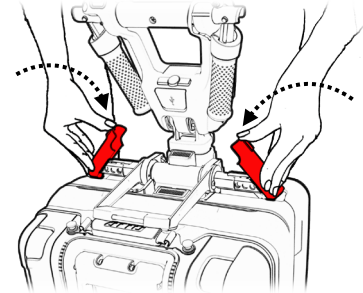

Figure 50
3. Close the two separation levers until they click (see Figure 50). In case the separation levers require too much force to operate, you should apply horizontal pressure on the driving console handle towards the center of the ATTO. This will release the pressure on the separation levers and will make them easier to open.